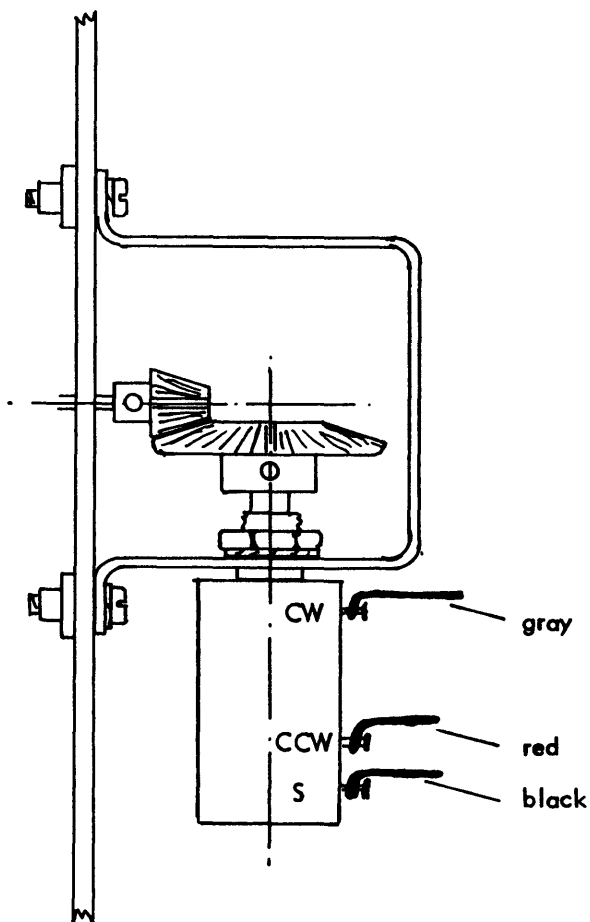

Fig. 7.7 - LOAD Coil Servo Potentiometer Assembly
a. The 90° gear drive must have the cog wheels correctly aligned, that is the cogs of both wheels shall be fully engaged — refer to figure 7.7. To achieve this, the potentiometer fixing hole in the bracket allows a certain horizontal play and the big cog wheel may be adjusted vertically on the spindle of the potentiometer.